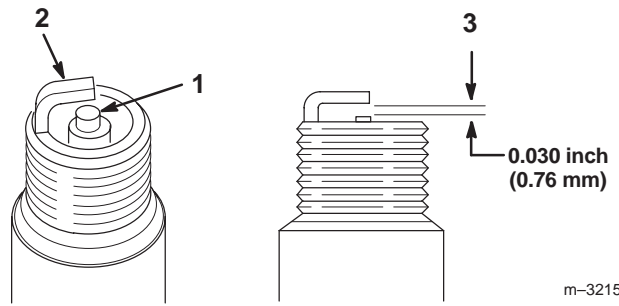

Figure 45
1. Look at the center of the spark plug(s) (Fig. 45). If you see light brown or gray on the insulator, the engine is operating properly. A black coating on the insulator usually means the air cleaner is dirty.
2. Check the gap between the center and side electrodes (Fig. 45). Bend the side electrode (Fig. 45) if the gap is not correct.